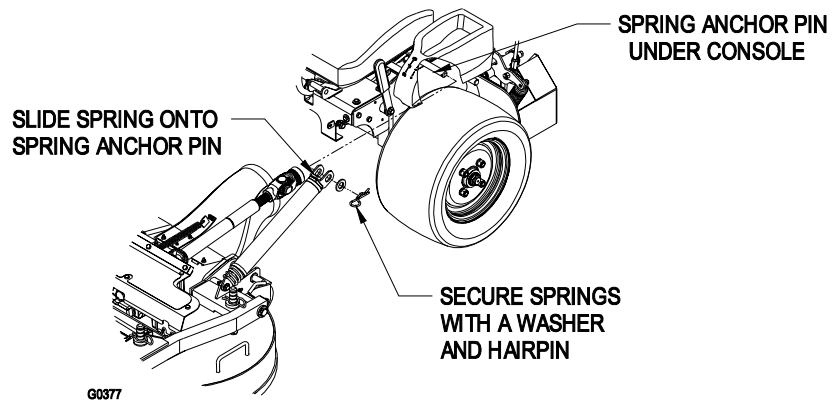

FIGURE 4
- g) Install springs onto the spring anchor pins under the left and right consoles and secure with a washer and hairpin. See Figure 4.
- c) Remove hairpins and washers at the top of the deck lift assist spring on each side of the unit. See Figure 4.